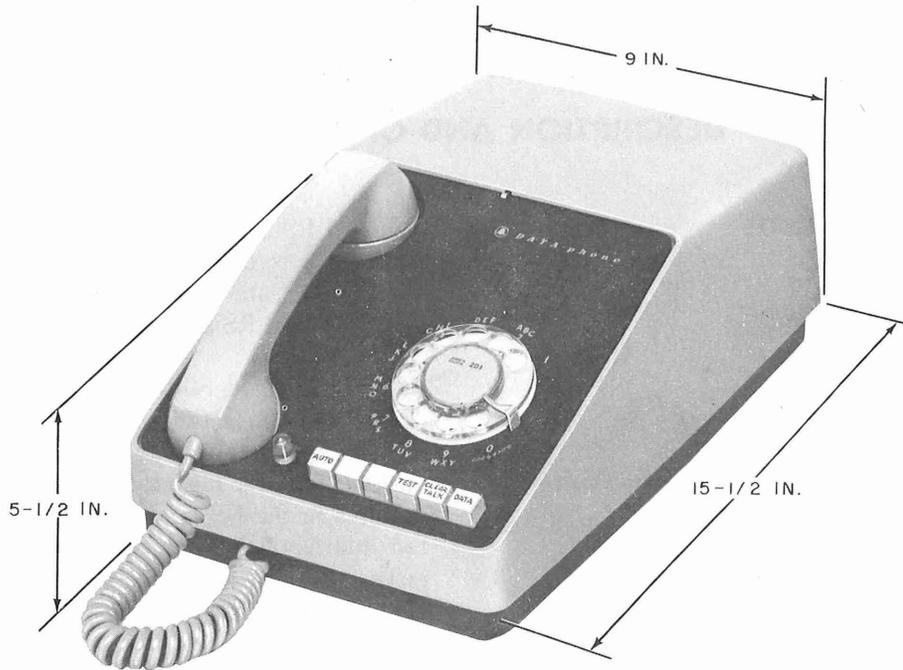

Fig. 1—Data Set 103G-Type—Front View
**2.01** Data Set 103G-type (Fig. 1) is a full-duplex serial data set capable of operating at speeds up to 300 bauds and provides DATA-PHONE service using the switched voice message network (DDD).